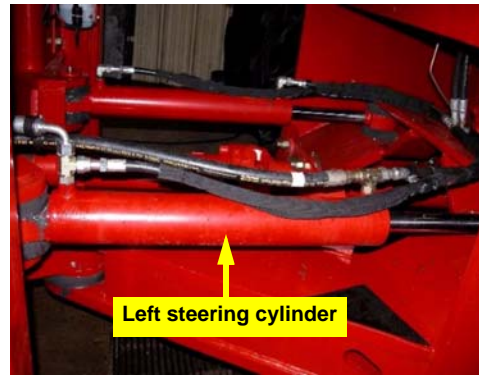

Figure 6a: Steering output location
- a. Locate the left steering cylinder in the middle of the tractor (Figure 6a).